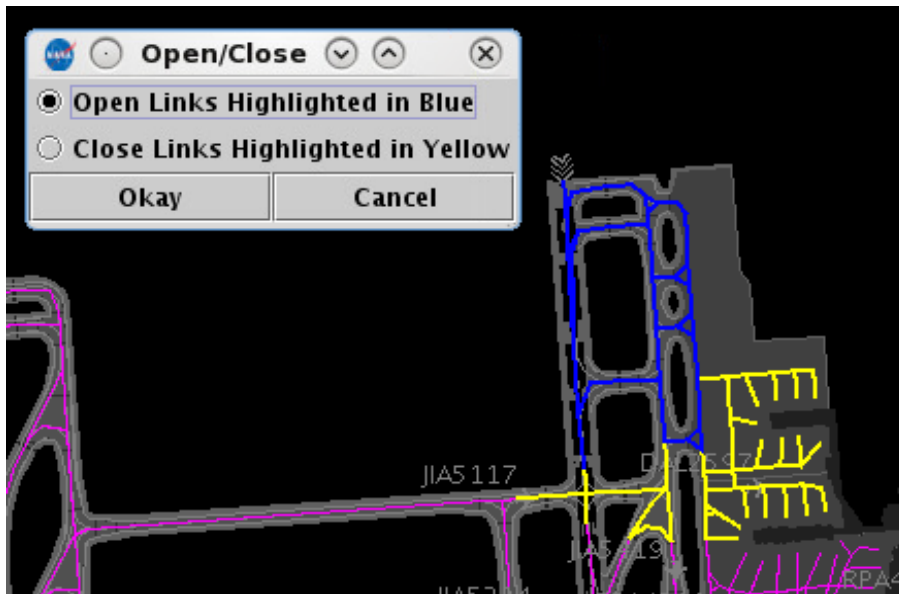

Figure 49. Link area to reopen (in blue).
**Step 2:** Select the area desired to be reopened from among the yellow links. The selected area highlighting will change from yellow to blue (see Figure 49). If new (purple) links are caught up in the selection, they will be highlighted in yellow.